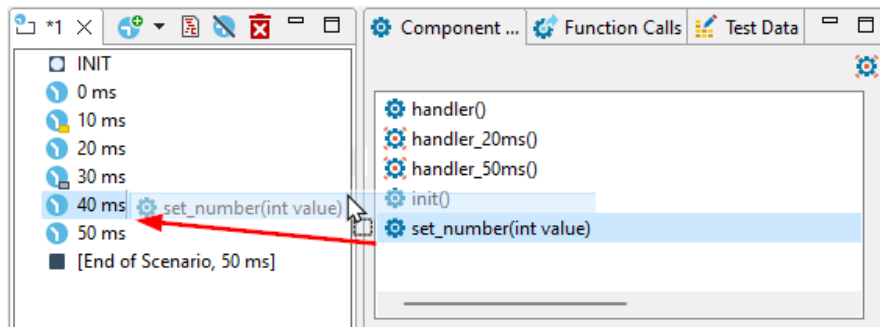

Figure 6.290: Adding Function Calls
- Drag and drop the functions from the component functions onto the desired time step (see figure 6.290).